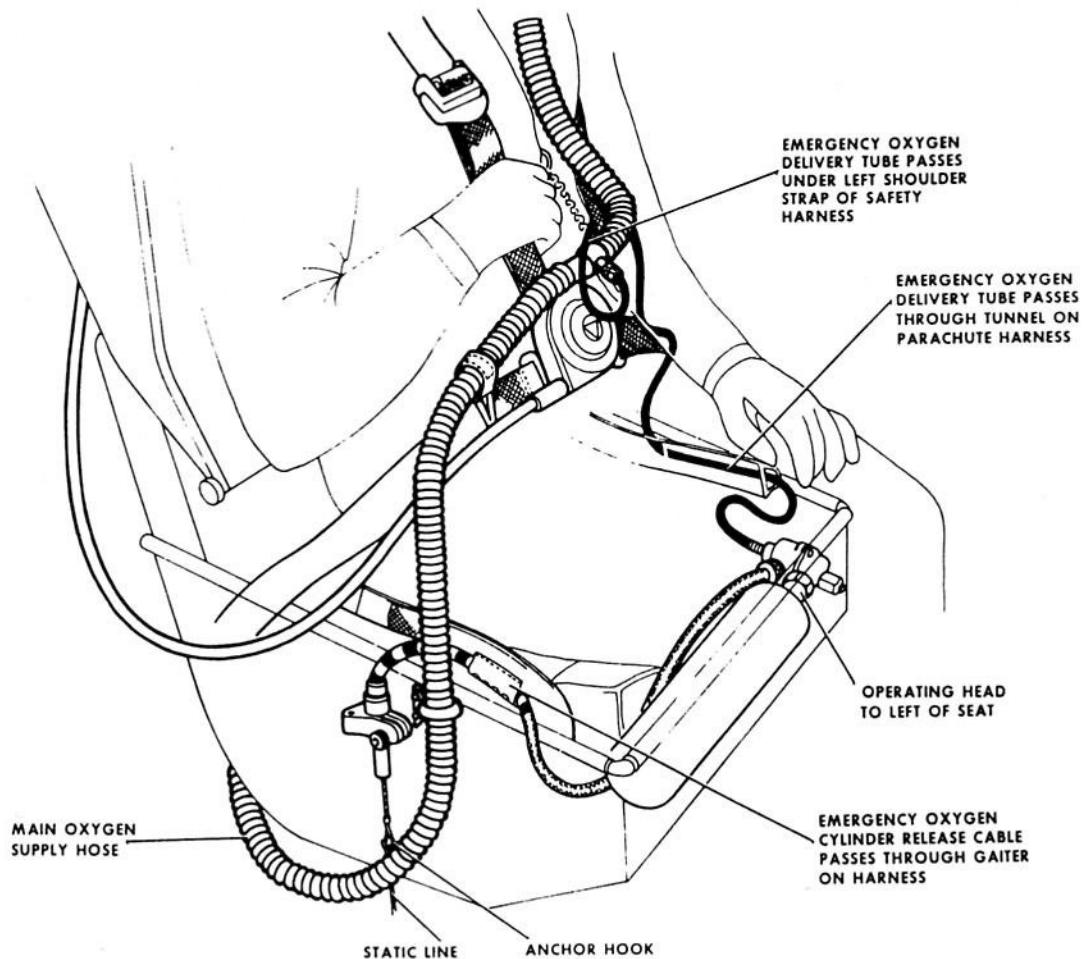

Fig 3 Emergency oxygen system
### EMERGENCY OXYGEN (fig 3)
- 12 The procedure for strapping-in is as follows. Refer to fig 3 to 8 as necessary:-